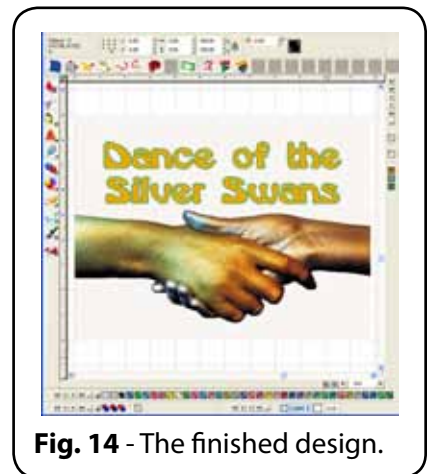

Fig. 14 - The finished design.
65. Press **[Ctrl]** and then click **Layer 1** to activate it again (Fig. 14).